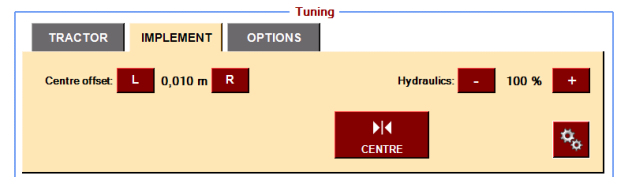

Figure 29 Centre offset Side-Shift Steering
5. Adjust the centre of the implement by half the measured error. The centre can be adjusted with the aid of the centre offset (Figure 29) in SBGuidance under Settings > Vehicle > Tuning > tab page Implement).